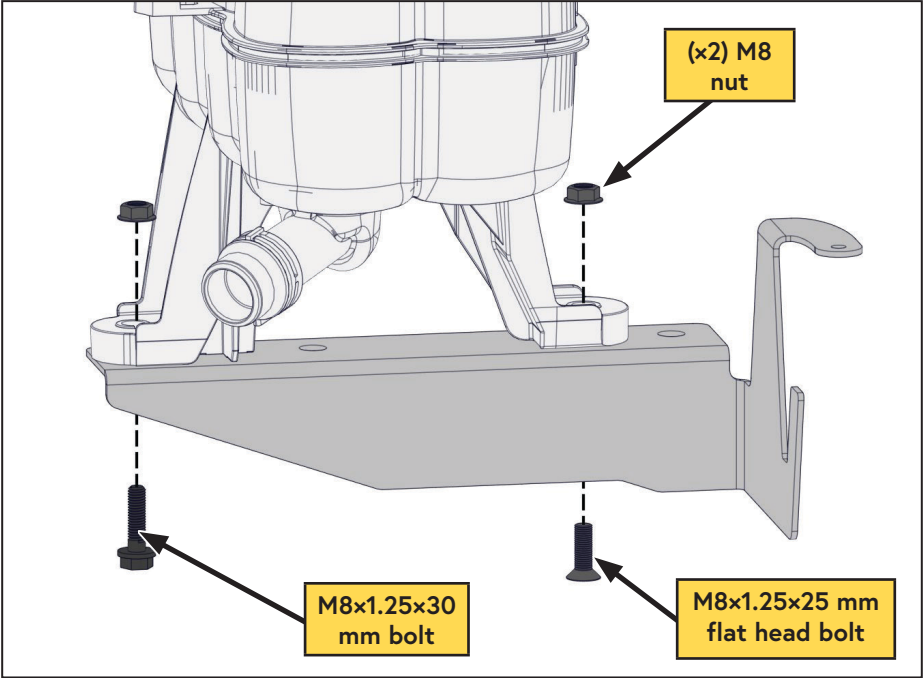
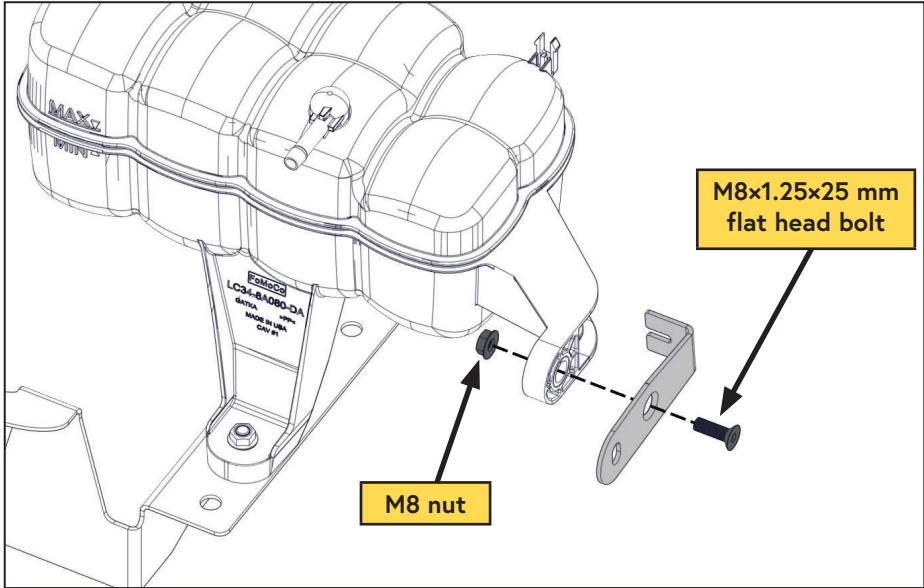

Figure 58 — Power steering relocation bracket
Figure 59 — Degas bottle relocation bracket
- Using the supplied fasteners, mount the power steering relocation bracket, and the degas relocation bracket, to the degas bottle (Figure 58, Figure 59).